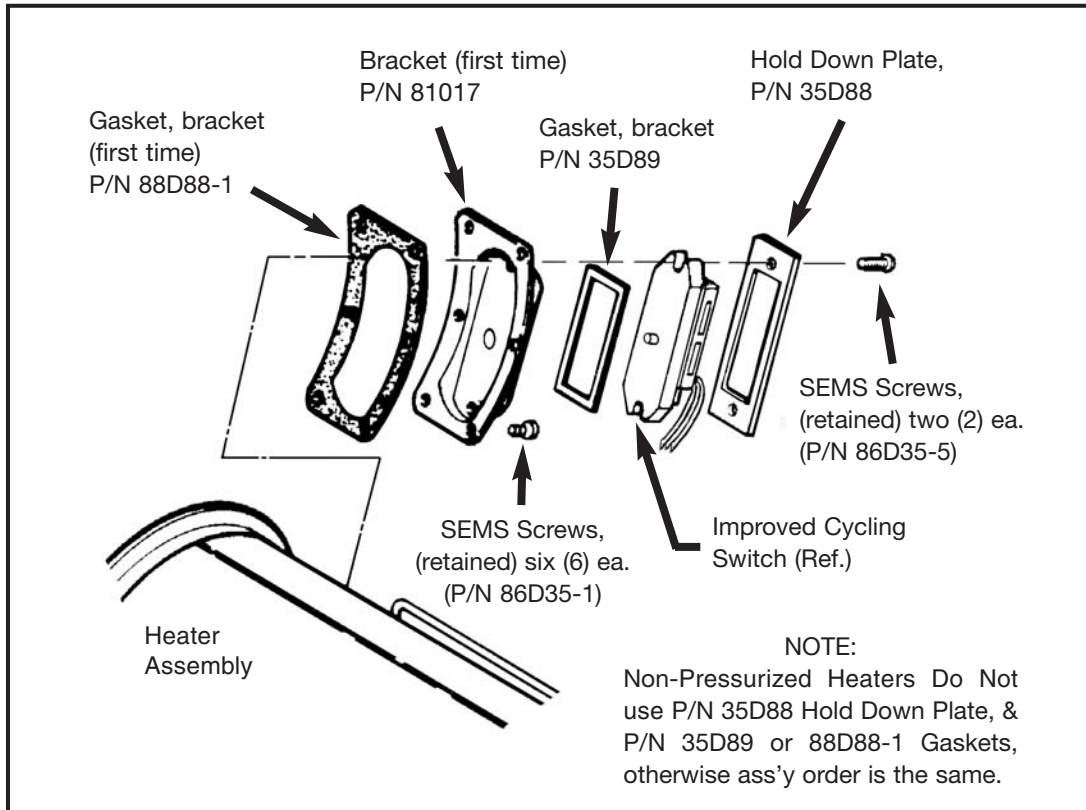

Figure 3 - Cycling Switch Parts Stack (Pressurized Heater)
- c. Install the retained HET P/N 35D88 hold down plate. (Refer to Fig. 3.)
- f. Allow three (3) to five (5) hours for gasket maker to cure before testing or using equipment.